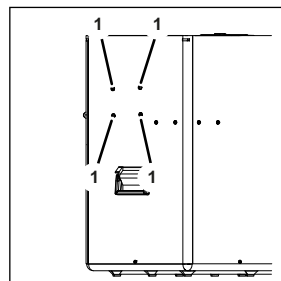
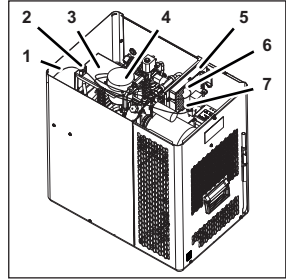
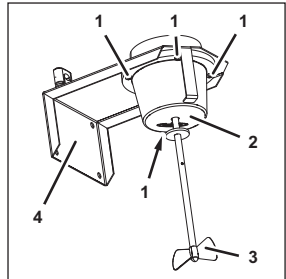

Figure 38
Figure 39
Figure 40
1. Remove the fastening bolts (Figure 38/1) from the stirrer motor mount (Figure 39/).
2. Disconnect the plugs (Figure 39/6 and 7) of the stirrer motor (Figure 39/4) from control system 1 (Figure 39/5).
3. Open the cable mount (Figure 39/2) and remove the electrical cable (Figure 39/1) from the cable mount (Figure 39/2).
4. Lift the stirrer motor mount (Figure 39/3) with stirrer motor (Figure 39/4) out of the unit.
5. Remove the stirrer blade (Figure 40/3) from the stirrer motor (Figure 40/2).
6. Remove the fastening bolt (Figure 40/1) from the stirrer motor (Figure 40/2).
7. Attach the new stirrer motor (Figure 40/2) to the stirrer motor mount (Figure 40/4) using the fastening bolts (Figure 40/1).
8. Apply Loctite to the stirrer blade (Figure 40/3).
9. Attach the stirrer blade (Figure 40/3) to the new stirrer motor (Figure 40/2).
10. Position the new stirrer motor mount (Figure 40/4) within the unit.
11. Attach the stirrer motor mount (Figure 40/4) using the fastening bolts (Figure 38/1).
12. Connect the plugs (Figure 39/6 and 7) of the stirrer motor (Figure 39/4) to control system 1 (Figure 39/5).
13. Insert the electrical cable (Figure 39/1) into the cable mount (Figure 39/2) and close the cable mount (Figure 39/2).
9. Position the new stirrer motor mount (Figure 40/3) within the unit.